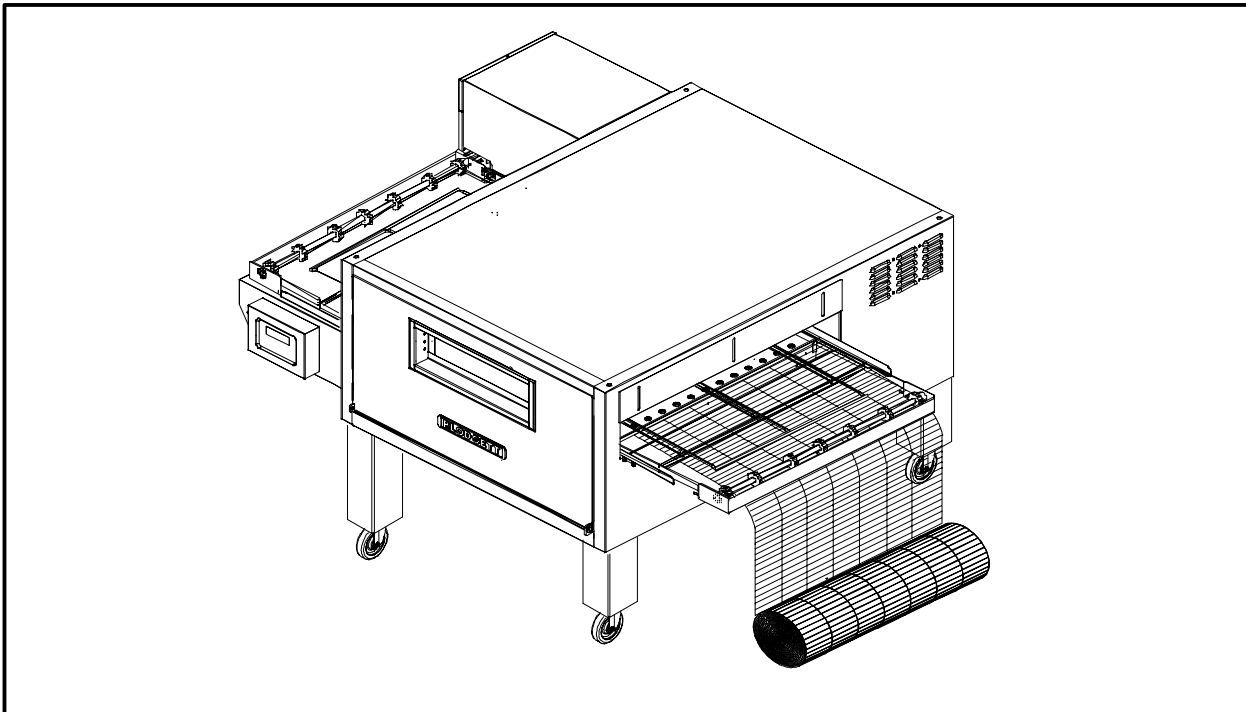

Figure 11
1. Thread the conveyor belt from the right side of the oven. The conveyor belt has loops on both ends. The loops must travel backwards on the conveyor rack to prevent belt damage. See Figure 11 for proper belt orientation.